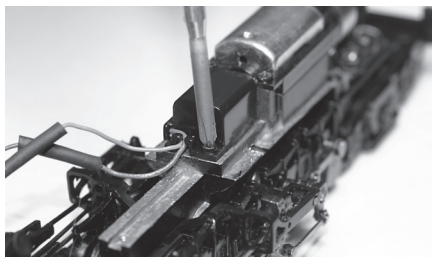

Figure 14 - Remove the worm gear cover
1. Remove the worm gear cover by removing the screw as shown in Figure 14.